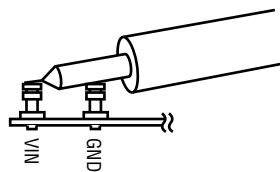

Figure 2. Measuring Input or Output Ripple
NOTE: When measuring the input or output voltage ripple, care must be taken to avoid a long ground lead on the oscilloscope probe. Measure the input or output voltage ripple by touching the probe tip directly across the V_{IN} or V_{OUT} and GND terminals. See the proper scope probe technique in figure 2.
5. Set the load current of both outputs to 3A and the input voltages to 20V, and then measure each output ripple voltage (refer to figure 2 for proper measurement technique); they should each measure less than 30mVAC. Also, observe the voltage waveform at either switch node (pins 23 & 24 for reg.1 and 13 & 14 for reg.2) of each regulator. The switching frequencies should be between 800kHz and 1.2MHz ($T = 1.25 \mu s$ and $0.833 \mu s$). To realize 2MHz operation, change the shunt position on header JP14. In all cases, both switch node waveforms should be rectangular in shape, and 180° out-of-phase with each other. Change the shunt position on header JP11 to set the switch waveforms in phase with respect to each other. To operate the ckt.s in Burst Mode, change the shunt in header JP8 to the Burst Mode position. When finished, insert shunts XJP1 and XJP2 to the OFF position(s) and disconnect the power.